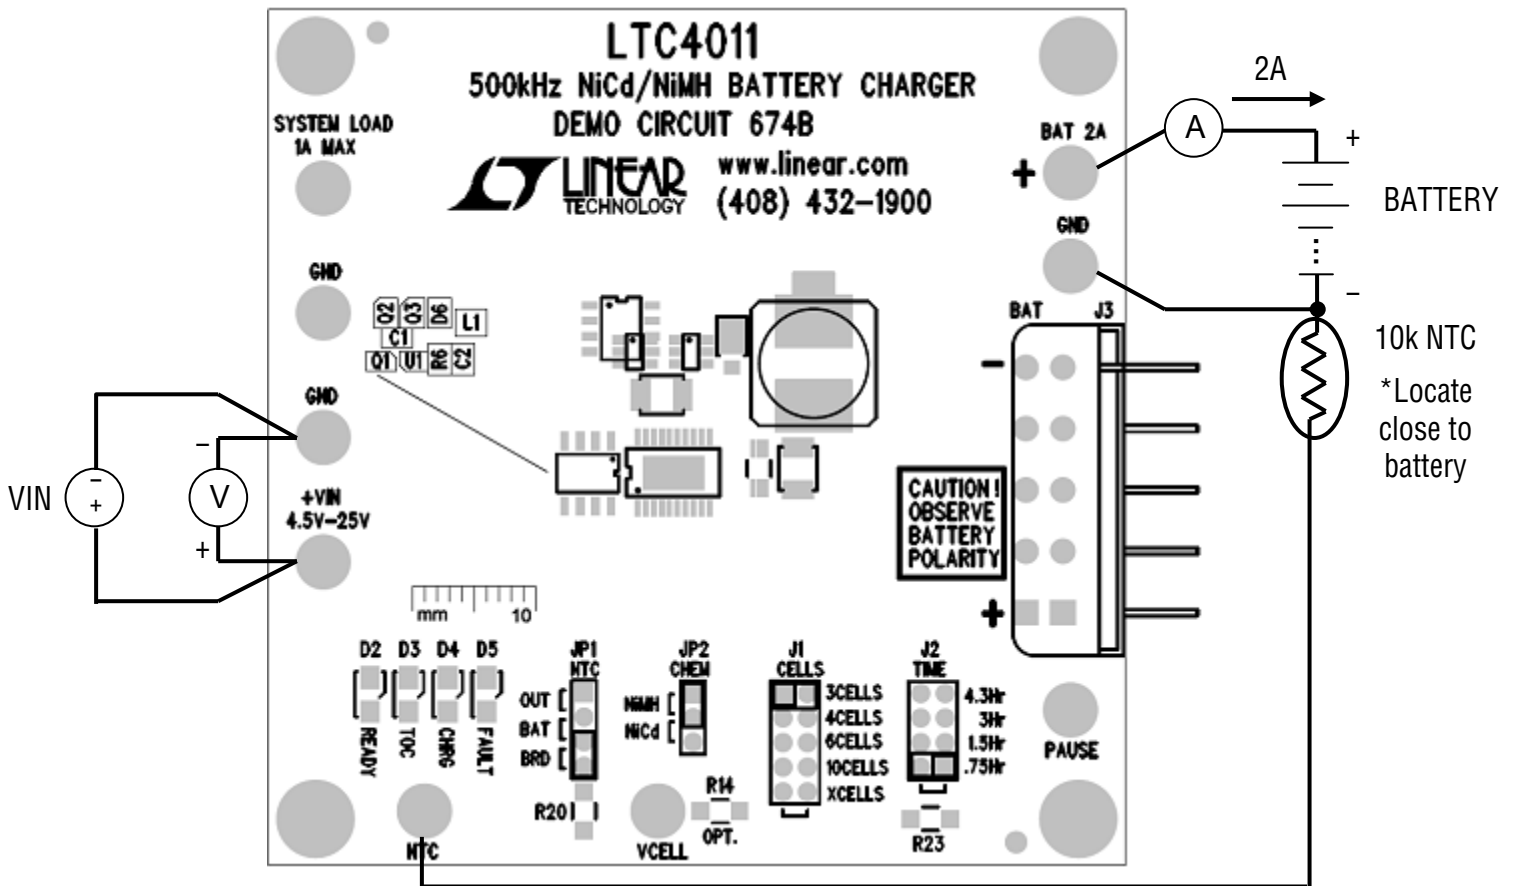

Figure 1. Proper Measurement Equipment Setup
Demonstration circuit 674B is easy to set up to evaluate the performance of the LTC4011. Refer to Figure 1 for proper measurement equipment setup and follow the procedure below.
2. With all power off, connect input power supply, and meters as shown in Figure 1.